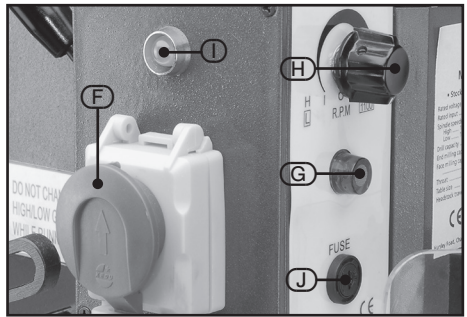

FIG.4
9.2 STARTING AND STOPPING – FIG.4